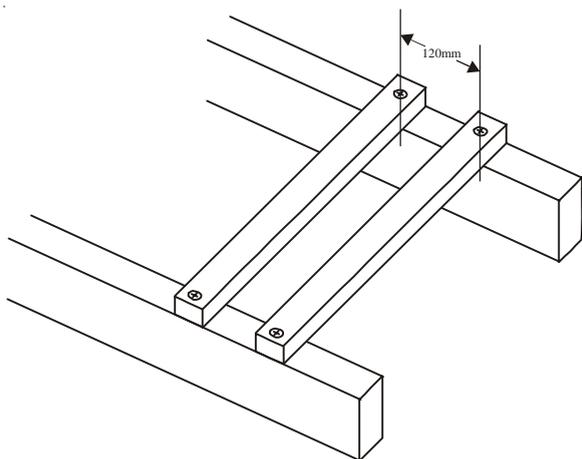

Fig.2
- 1.3 **HOME'N'DRY XL** automatically operates within the temperature range of 5°C (minimum) and 24°C (maximum). The facility for fitment of Low and High temperature override controls, and a humidistat is provided by removing the required link and connecting the desired control to the PCB, referring to Fig. 2 for wiring configuration.
- 3.5 Secure the 2 battens to the ceiling joists in the required position using 4 x 1 in. No. 8 screws provided (see fig. 2)